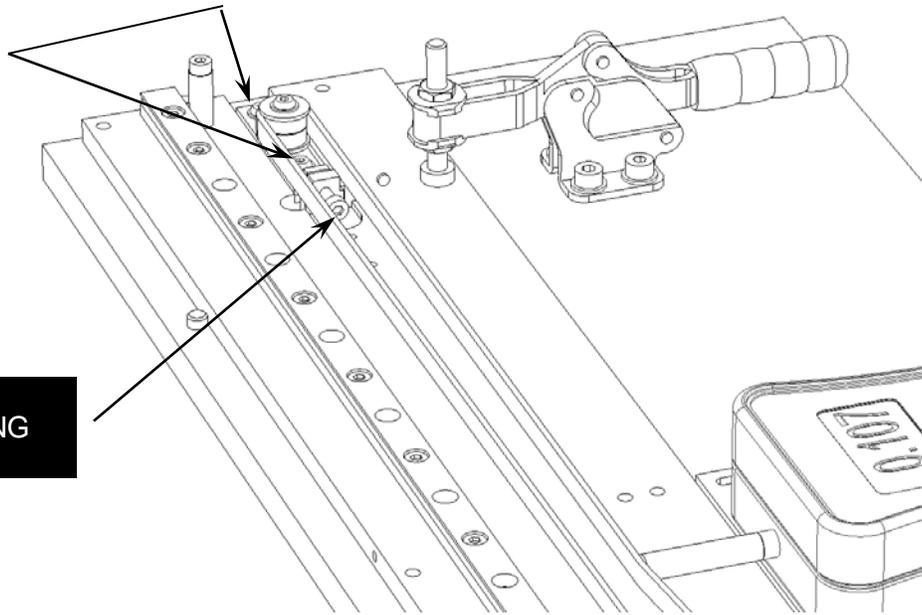

Figure 9-13: Belt Tensioning
9. Re-tighten the X Belt Tensioning Screw until the force gauge reads between 0.102 and 0.112Kg (target of 0.107 Kg). Tighten the two M3x6 Button Head Screws holding the Idler assembly in place, then one at a time remove these screws and refit them using Loctite 222 (Figure 9-13).